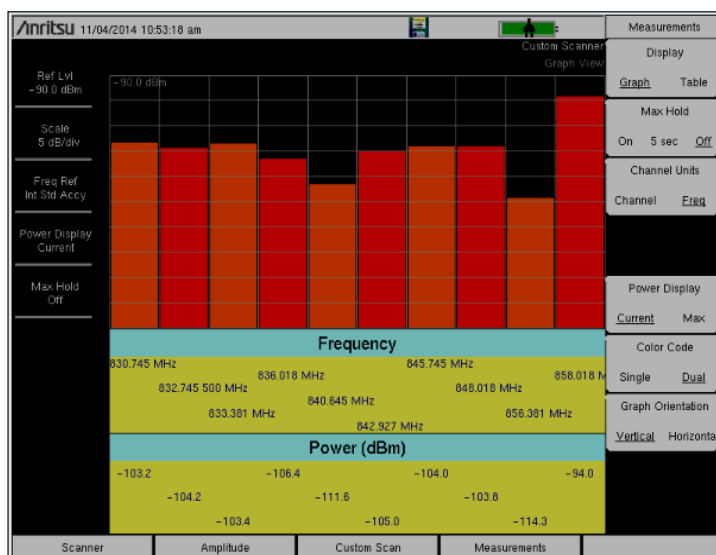

Figure 28: The Channel Scanner in Frequency Scan mode.
- A custom list of frequencies, as shown in figure 28. This allows you to take channel power measurements for a set of user defined channels. These channels may be scattered around the spectrum, and each one can be set to its own bandwidth.